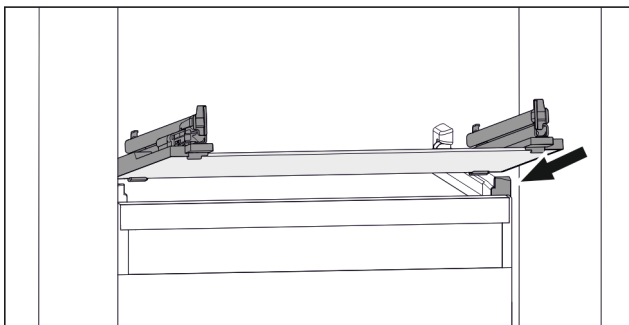

Fig. 93 Example illustration of glass shelf
- ▶ Position glass shelf at an angle behind the stoppers. (see *Fig. 93*)